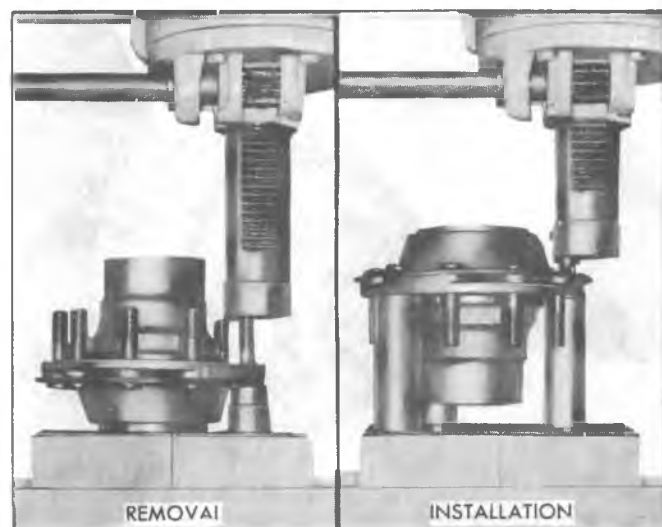

Fig. 4B-34--Wheel Bolt Replacement
5. Drive cup back **against** snap ring by using J-24426, as shown in figure 4B-33.
Drum-Non-Demountable-Type-Fig. 4B-31